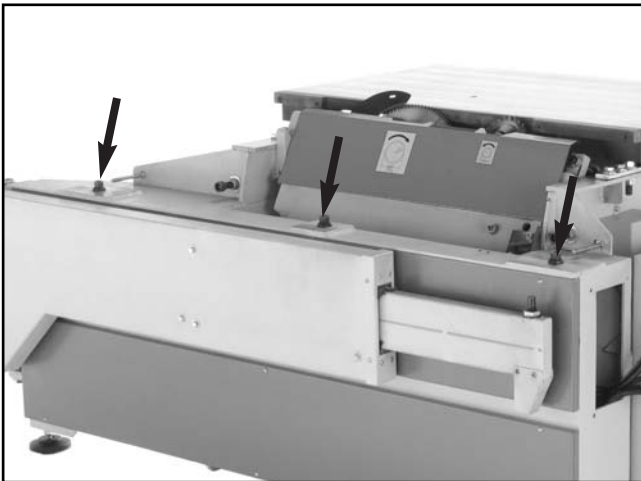

Figure 25. Three large caps screws to be removed from saw base unit.
2. Using a 12mm hex wrench, remove the three large cap screws (**Figure 25**) from the saw base unit.